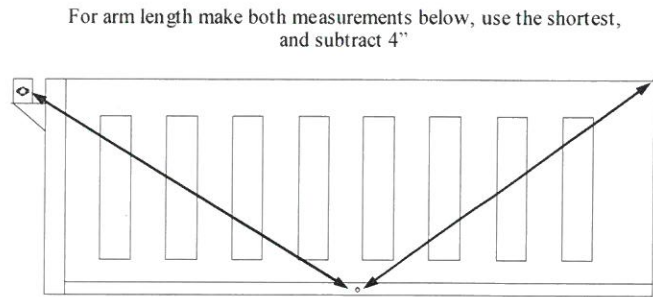

Figure 8
Connecting the arms (P) to the spring shaft. Determine the length the arms need to be before connecting them by measuring from the center of the spring shaft to the rear of the tailgate and subtracting 4". This will allow for the legs on the crossover (Note: this method of measurement is used if the pivot point of the system is at or less than 7" from the center of the trailer. If this measurement is greater than 7", then measure from the center of the spring shaft to the center of the tarp axle on the roller box assembly and subtract 4". This will cause the system to fall just short of the rear of the tailgate), *see figure 8*. Once the proper length is determined, cut the arms and scrap the remaining material.